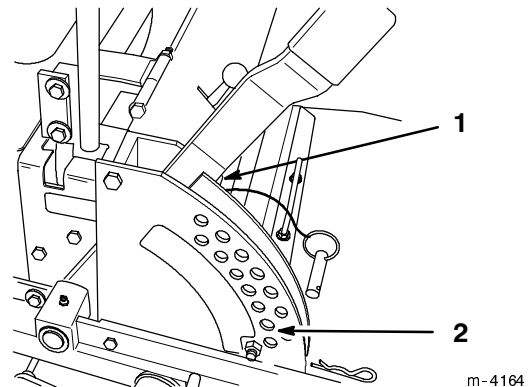

Figure 44
2. Check tire pressure of all four (4) tires. If needed, adjust to 13 psi (90 kPa)
4. Raise the deck to the transport position and take all force off of the two large deck lift springs by loosening nut in front of each spring (Fig. 44).
5. Place two 1-1/2" (38 mm) thick blocks under rear left and right lower edge of mower. Place one 2-1/4" (57 mm) block under front center lower edge of mower. Lower mower to the 2" (51 mm) height-of-cut position (Fig. 44).
1. Raise deck lift lever to the transport position, (Fig. 44).